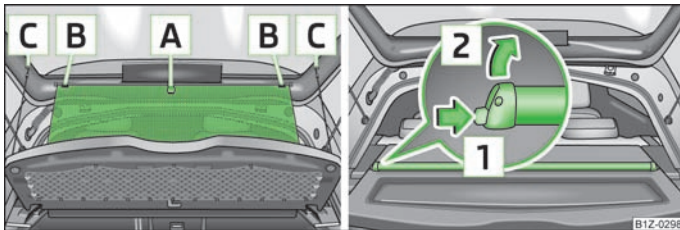

Fig. 34 Sun screen: unroll/remove
- Remove the sun screen using the loop **A** and hang it from brackets **B** » Fig. 34.